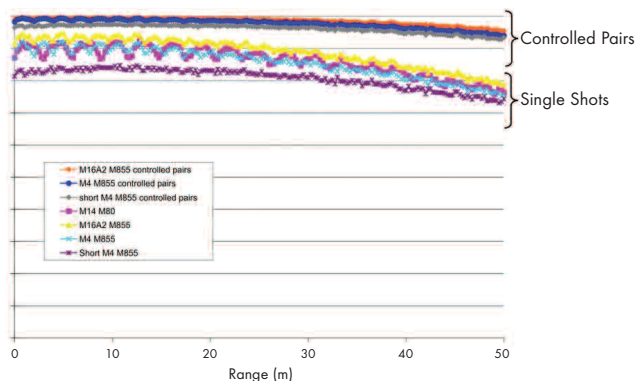

Figure 8. Improvement in Performance Due to Controlled Pairs (Source: ARL)
4. There are doctrinal and training techniques that can increase Soldier effectiveness. The analysis tools used in this study were used to evaluate some alternative engagement techniques. The technique of engaging CQB targets with controlled pairs – two aimed, rapid shots as described in Chapter 7 of FM 3-22.9 – was shown to be significantly better than single aimed shots (see Figure 8). While that should certainly not be surprising to those who have been using this technique for some time, we now know why. Not only are two hits better than one, but controlled pairs help to average out striking yaw; on average, the Soldier is more likely to see a hit where the bullet's yaw behavior works in his favor.